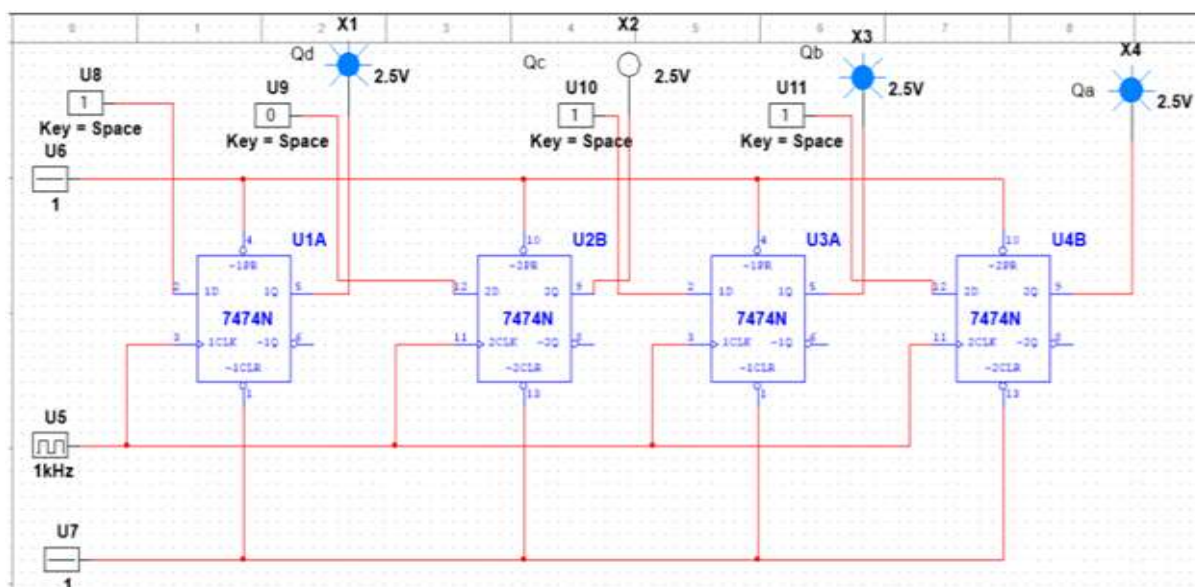

Figure 11: Shift Register
7. The same process can be used for digital experiments for which an example is shown in Figure 11.